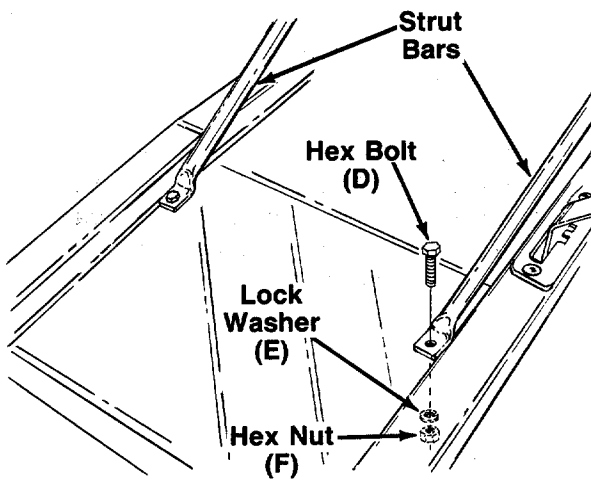

FIGURE 4.
7. Attach the strut bars to the frame with hex bolts (D), lock washers (E) and hex nuts (F). Lock washers and hex nuts go beneath the frame. See figure 4.